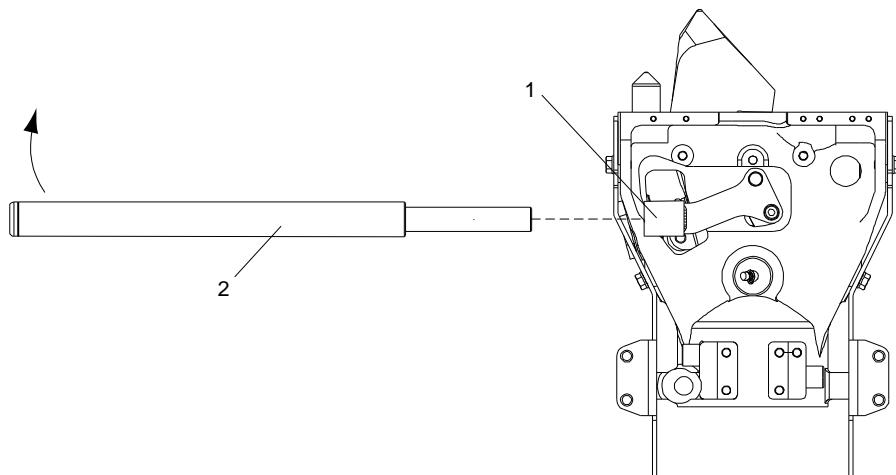

Figure 5-2: Test Manual Uncoupling
1. Fit the uncoupling handle (2) to the uncoupling arm (1). Operate the coupling mechanism by pulling the handle. The movement of the coupling mechanism can be seen from the front of the coupler. The mechanism should move freely without slack or obstruction. See Figure 5-2.